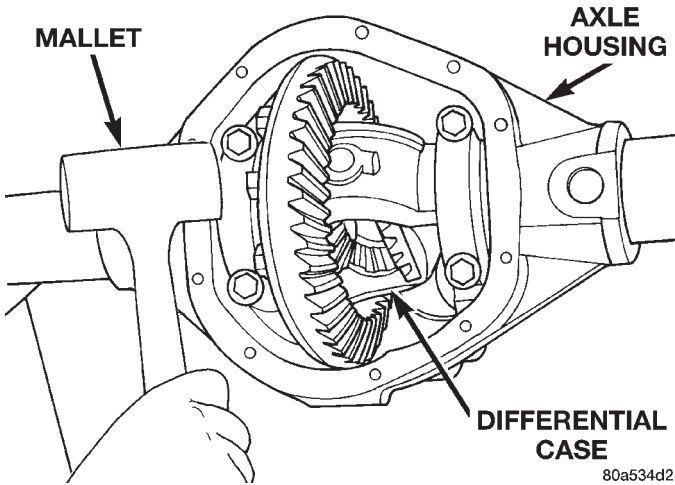
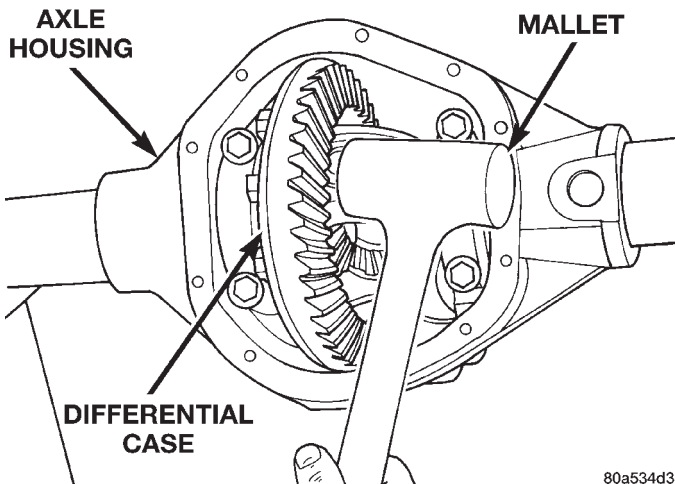

Fig. 52 Seat Pinion Gear Side Differential Dummy Side Bearing
Fig. 53 Seat Ring Gear Side Differential Dummy Side Bearing
(7) Using a dead-blow type mallet, seat the differential dummy bearings to each side of the axle housing (Fig. 52) and (Fig. 53).
(15) Rotate dial indicator out of the way on the guide stud.
(16) Remove differential case and dummy bearings from axle housing.
(17) Install the pinion gear in axle housing. Install the pinion yoke and establish the correct pinion rotating torque.
(18) Install differential case and dummy bearings D-348 in axle housing (without shims), install bearing caps and tighten bolts snug.
(19) Seat ring gear side dummy bearing (Fig. 53).